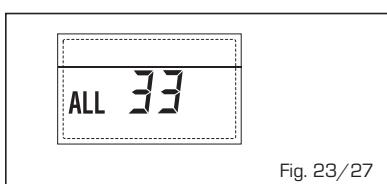

Fig. 23/27
- RS-485 BOARD COMMUNICATION ANOMALY IN CASCADE MODE "ALL 34" (fig. 23/28)